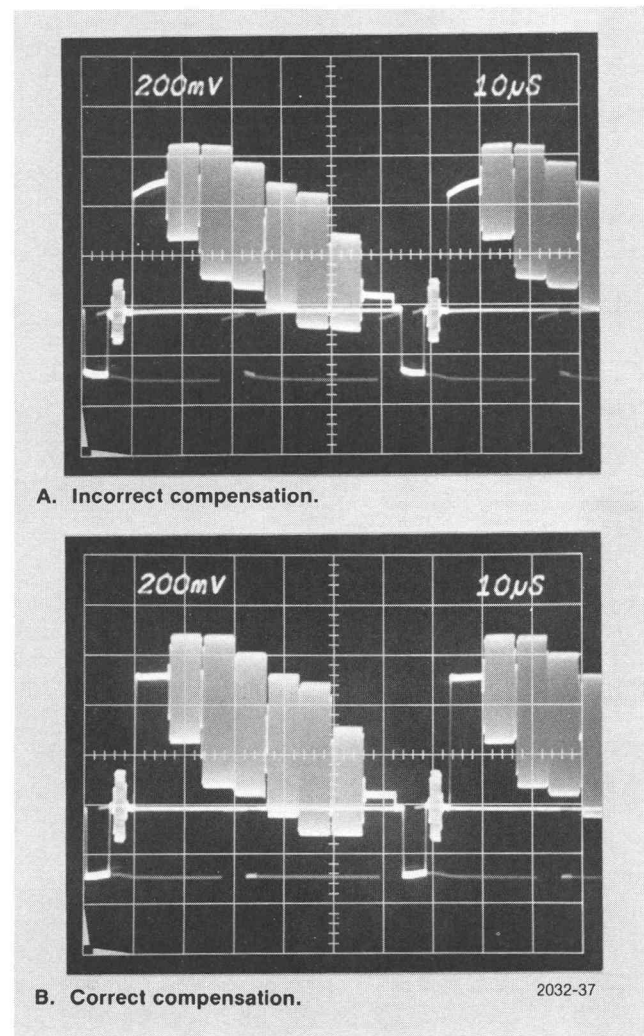

Fig. 4-7. 1420—input compensation.
b. Check—The color bar waveform displayed on the Test Oscilloscope should have flat top white bar and flat sync tip. See Fig. 4-7 or Fig. 4-8.
c. Adjust—C1034 (A Input Comp) for flat top white bar and flat sync tip. See Fig. 4-7 or Fig. 4-8.
e. Check—The Test Oscilloscope display should appear the same as part b of this step. See Fig. 4-7 or Fig. 4-8.
f. Adjust—C1084 (B Input Comp) for flat top white bar and flat sync tip. See Fig. 4-7 or Fig. 4-8.